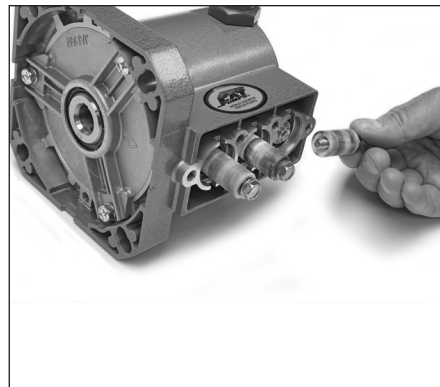

Figure 11
8. Install ceramic plunger with plunger retainer and seal washer over each plunger rod shoulder and thread hand tight (See Figure 11).